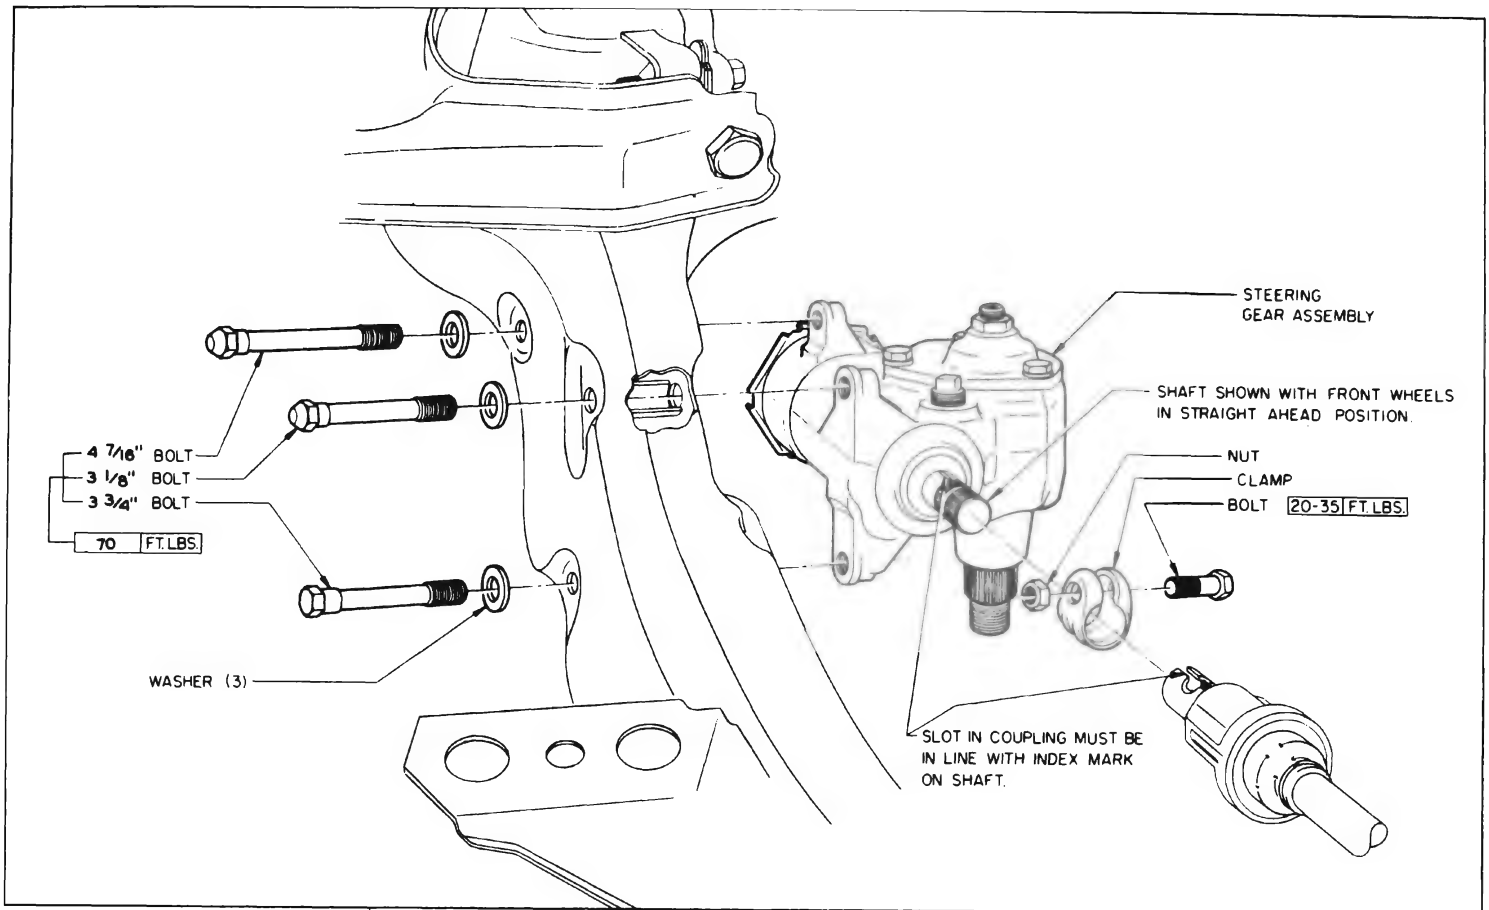

Figure 8-9—Manual Steering Gear Installation
1. Install the gear assembly by reversing the procedure for removal. Make sure that slot in coupling lines up with mark on worm shaft. See Figure 8-9.